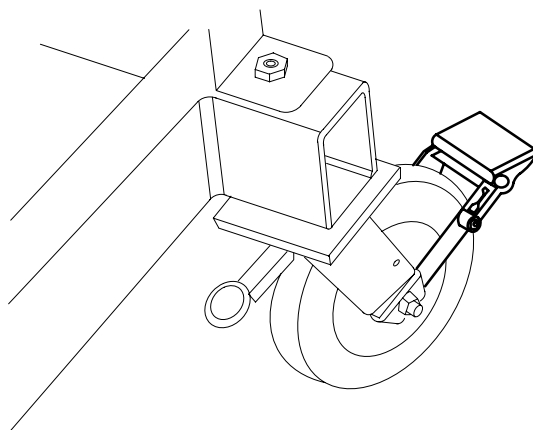

Fig. 20 Lifting Device Foot Brake
(19) Lock lifting device foot brake (Fig. 20).